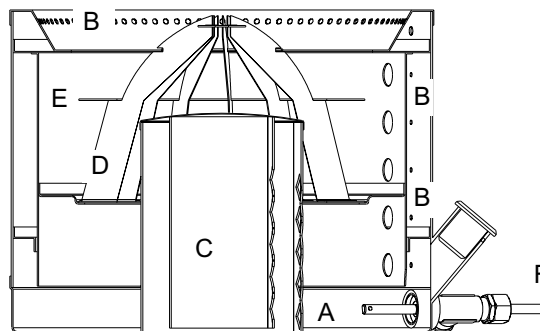

Figure 13
1. Through the open door, remove the catalyser components (C, D and E, figure 13) from the burner.
Light with a long taper or wadded piece of paper. Immediately replace the catalyser components (figure 13). Ensure that the top is centred.
Remove all three catalyser components (C, D, E, figure 13). Remove any carbon residue and remaining oil from the burner using a slightly damp cloth. Buff dry before reinstalling.